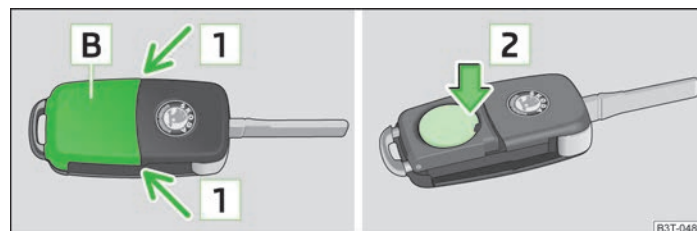

Fig. 9 Remote control key: Remove cover/remove battery
Each remote control key contains a battery which is housed under the cover **B** » Fig. 9. If the battery is discharged, the red indicator light **A** does not flash after you press a button on the remote control key » Fig. 8 on page 27. We recommend that you ask a ŠKODA Service Partner to replace the key battery. However, if you would like to replace the discharged battery yourself proceed as follows.
- Press off the battery cover with your thumb or using a flat screwdriver in the region of arrows **1** » Fig. 9.